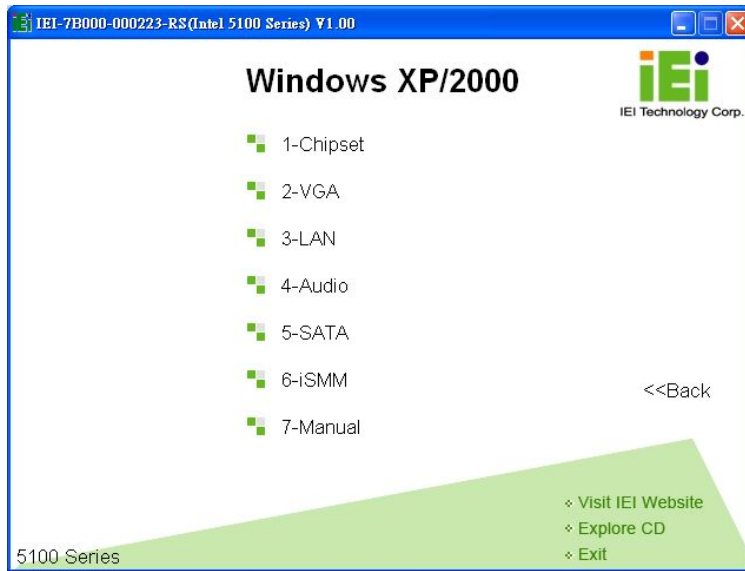

Figure 7-3: Available Drivers
Step 5: A new screen with a list of available drivers appears (**Figure 7-3**).
Step 6: Select the driver to install from the list in **Figure 7-3**. Detailed driver installation instructions follow below.
Step 1: Select Chipset from the list in **Figure 7-3**.
Step 1: Select VGA from the list in **Figure 7-3**.
Step 1: Select LAN from the list in **Figure 7-3**.
Step 1: Select Audio from the list in **Figure 7-3**.
Step 1: Select **SATA** from the list in **Figure 7-3**.